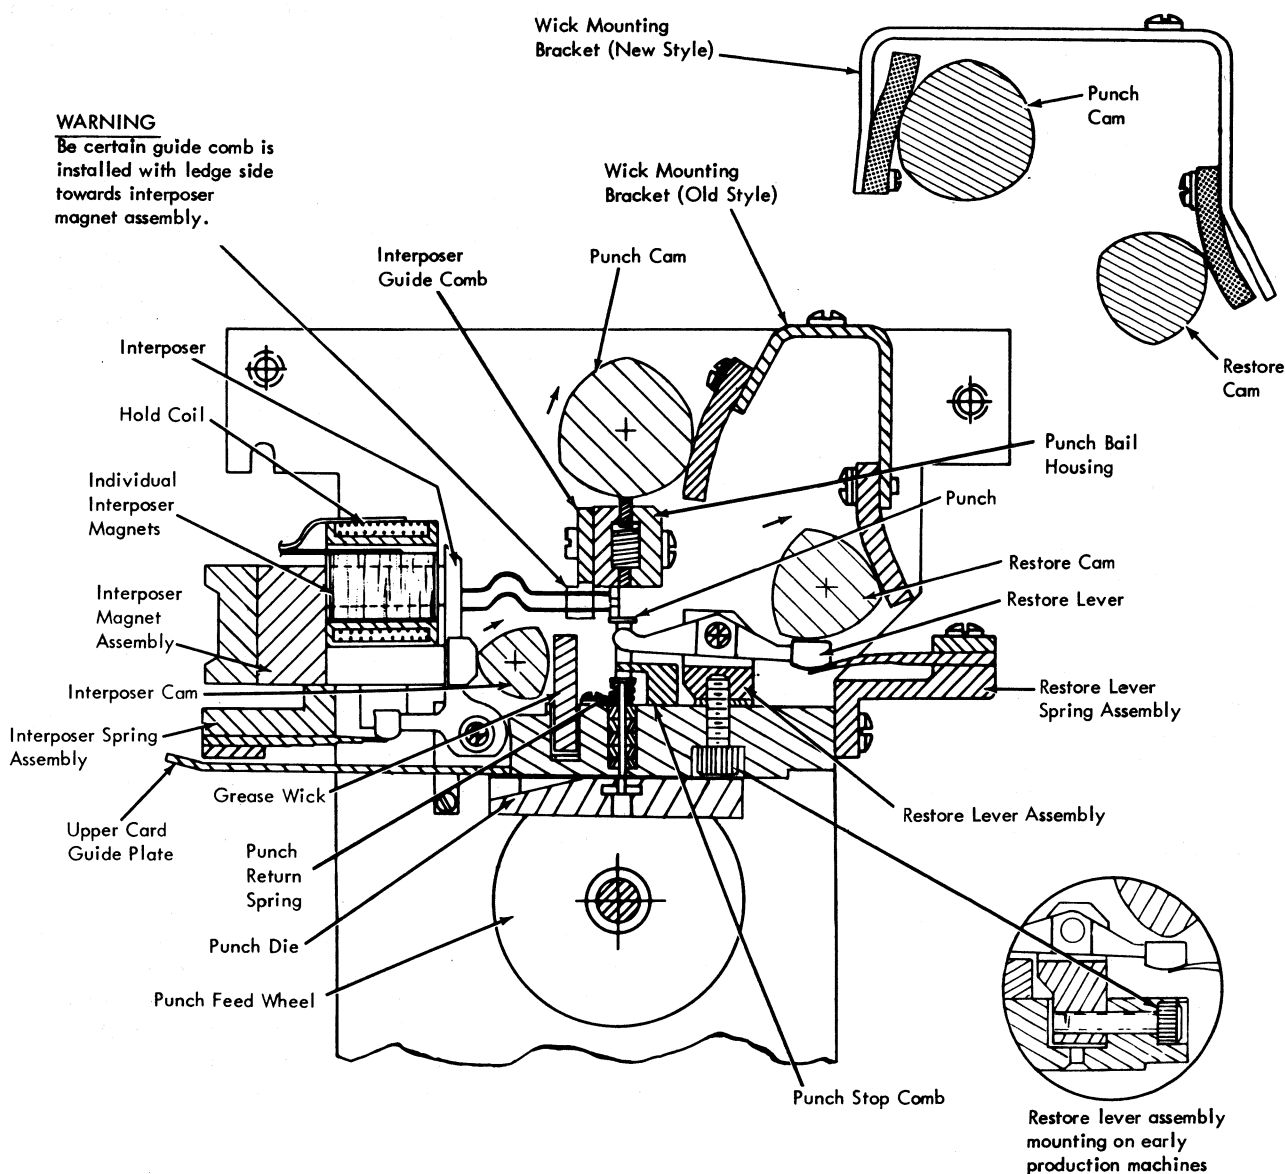

Figure 4-46. Punch Unit
3. Remove punch and restore grease cam wiper bracket (Figure 4-46).
2. Remove punch and restore cam grease wiper assembly (Figure 4-46).
CAUTION: On early production machines, the lower slotted portion of the interposer guide comb has a thicker ledge on one side. The comb must be installed with the ledge side towards the interposer magnet assembly. (See Figure 4-46.) If the interposer comb is not installed correctly complete restoration of the interposers will be blocked and punch unit damage will result. Repositioning or rotation of interposer pivot rod can change the clearance between the incremental drive feed wheels and pressure rolls. Before installing punch unit, pressure-roll-to-feed-wheel clearance should be checked.